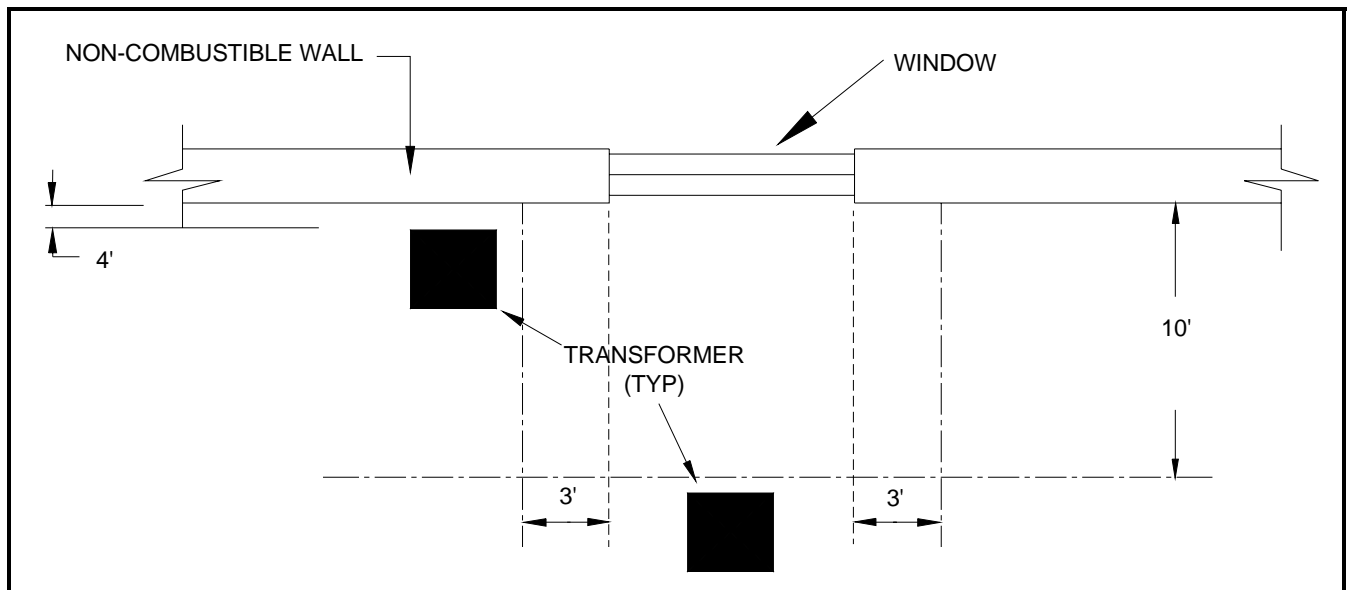

Figure 4 – Clearance From Windows (Non-Combustible Wall)
- 2.3 Padmounted type transformers shall not be located within a zone extending ten feet outward and three feet to either side of a building window. (See Figure 4)